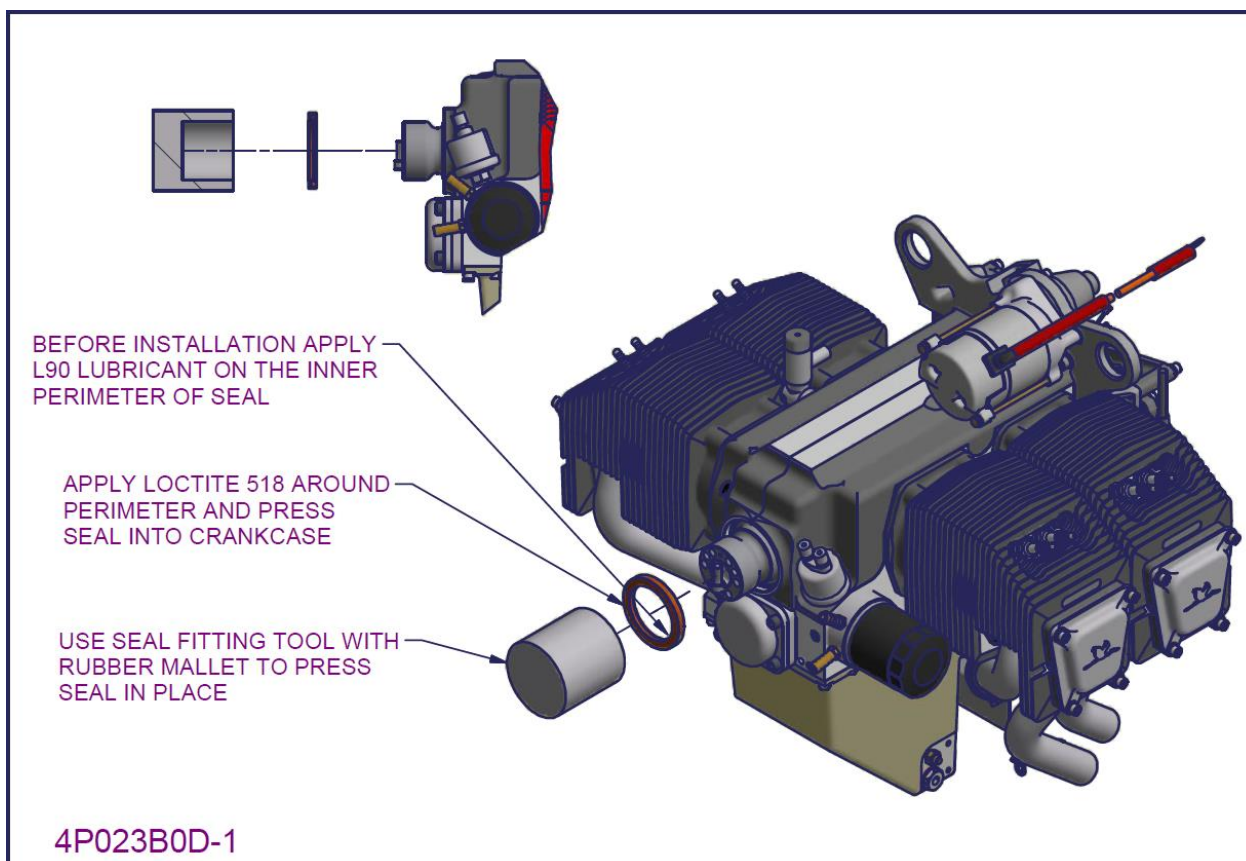

Figure 189 – 2200/3300 Front seal and propeller flange installation 2
- The seal is pressed into place using a special front seal fitting tool (as shown in Figure 189). By striking the tool with a rubber mallet the seal is pressed into the crankcase housing